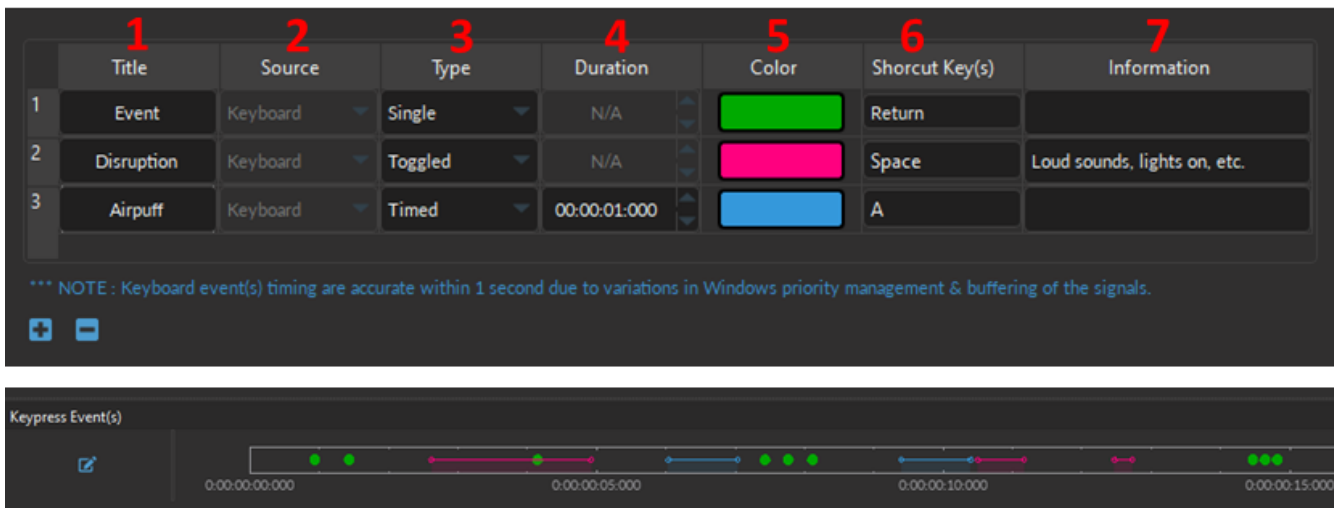

Figure 5.43: Channel(s) Configuration, KeyPress Event(s)
The following are the configurable parameters of a **KeyPress Event**, per Fig. 5.43:
1. The **Title** (Fig. 5.43, 1) allows you to give a name for the Keypress event.
2. The **Source** (Fig. 5.43, 2) is by default *Keyboard*.
3. Three **Types** of Keypress Event(s) (Fig. 5.43, 3) can be specified with the drop-down list:
- The **Duration** Fig. 5.43, 4) is only used for the **Timed** Keypress type to specify the predetermined amount of time a Keypress Event will span. The duration is set in hh:mm:ss:zzz.
- Select the **Color** field Fig. 5.43, 5) to open the **Select Color** window. Basic colors are provided, in addition to custom colors can be created and stored.
- The **Shortcut Key(s)** Fig. 5.43, 6) can be any keyboard key, including space bar, enter, backspace, any letters, number,s and special characters (*, !, ?, etc.). To specify the key, click inside the *Shortcut Key(s)* cell, then press the keyboard key of choice. If a key was properly set, it will appear in the *Shortcut Key(s)* cell (as in Fig. 5.43, column 6).
- The **Information** column Fig. 5.43, 7) provides space to make notes or write a short description of the Keypress Event.